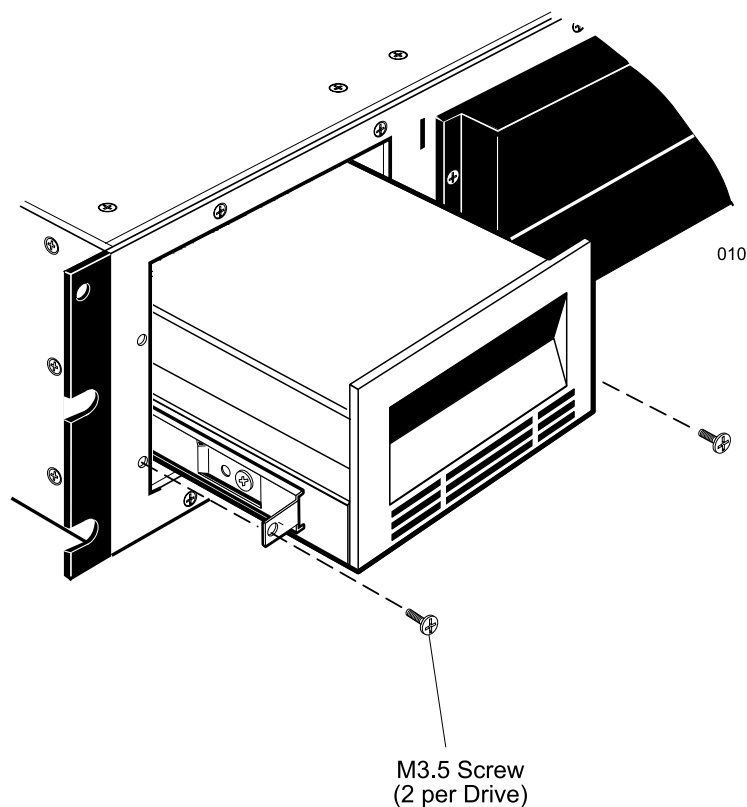

Figure 13: Installing a Typical Full-Height 5.25" Drive into the NetMEDIA
2. Loosen the eight (8) rail adjustment screws on both rails and adjust to fit the rack.
3. Make sure both rails are parallel to one another and level in the rack cabinet. Secure the rails to the rack cabinet using the eight (8) M6 screws and eight (8) rack mounting nuts provided (Figure 13).
4. Once both rails are secured in place, tighten the eight (8) rail adjustment screws.